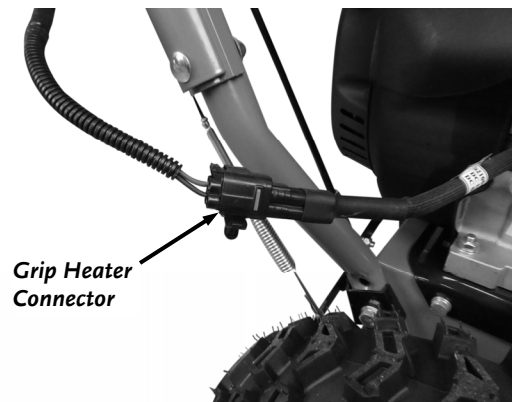

Figure 19
19. Use Wire Cutters to cut the Cable Tie that is securing the Heated Grip Connector and insert the Connector into the Harness Plug (**Figure 19**).